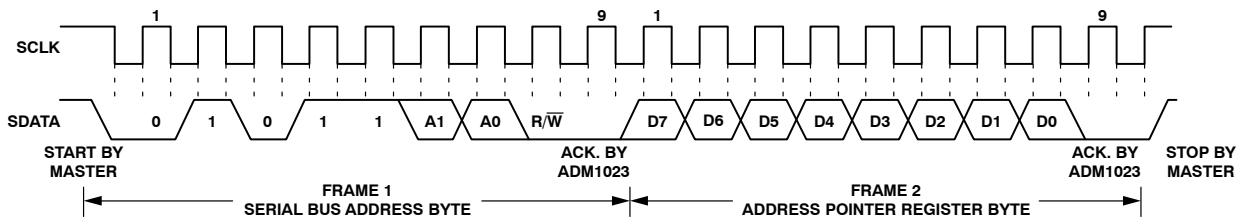
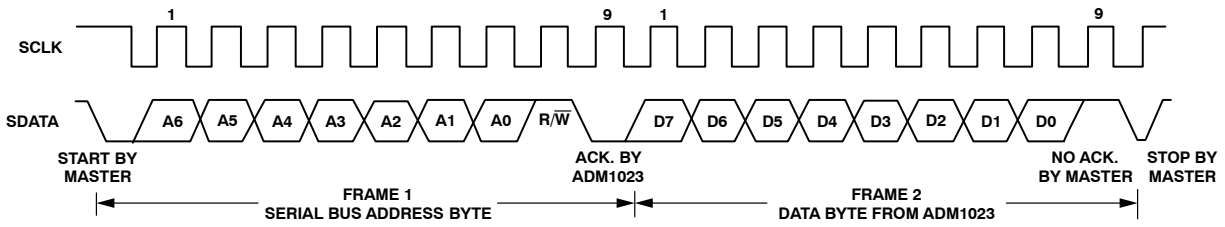

Figure 16. Writing to the Address Pointer Register Only
Figure 17. Reading Data from a Previously Selected Register
1. If the ADM1023's address pointer register value is unknown or not the desired value, it is necessary to set it to the correct value before data can be read from the desired data register. This is done by performing a write to the ADM1023 as before, but only the data byte containing the register read address is sent, as data is not to be written to the register. This is shown in Figure 16. A read operation is then performed consisting of the serial bus address, $\overline{R/W}$ bit set to 1, followed by the data byte read from the data register. This is shown in Figure 17.